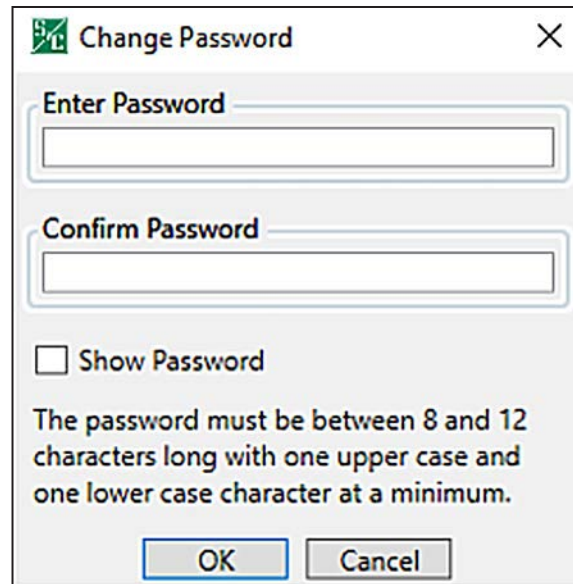

Figure 113. The Change Password dialog box.
- STEP 2.** Enter a new non-default password meeting the complexity requirements into the **Enter Password** and the **Confirm Password** fields. Then, click on the **OK** button. See Figure 113 on page 220.